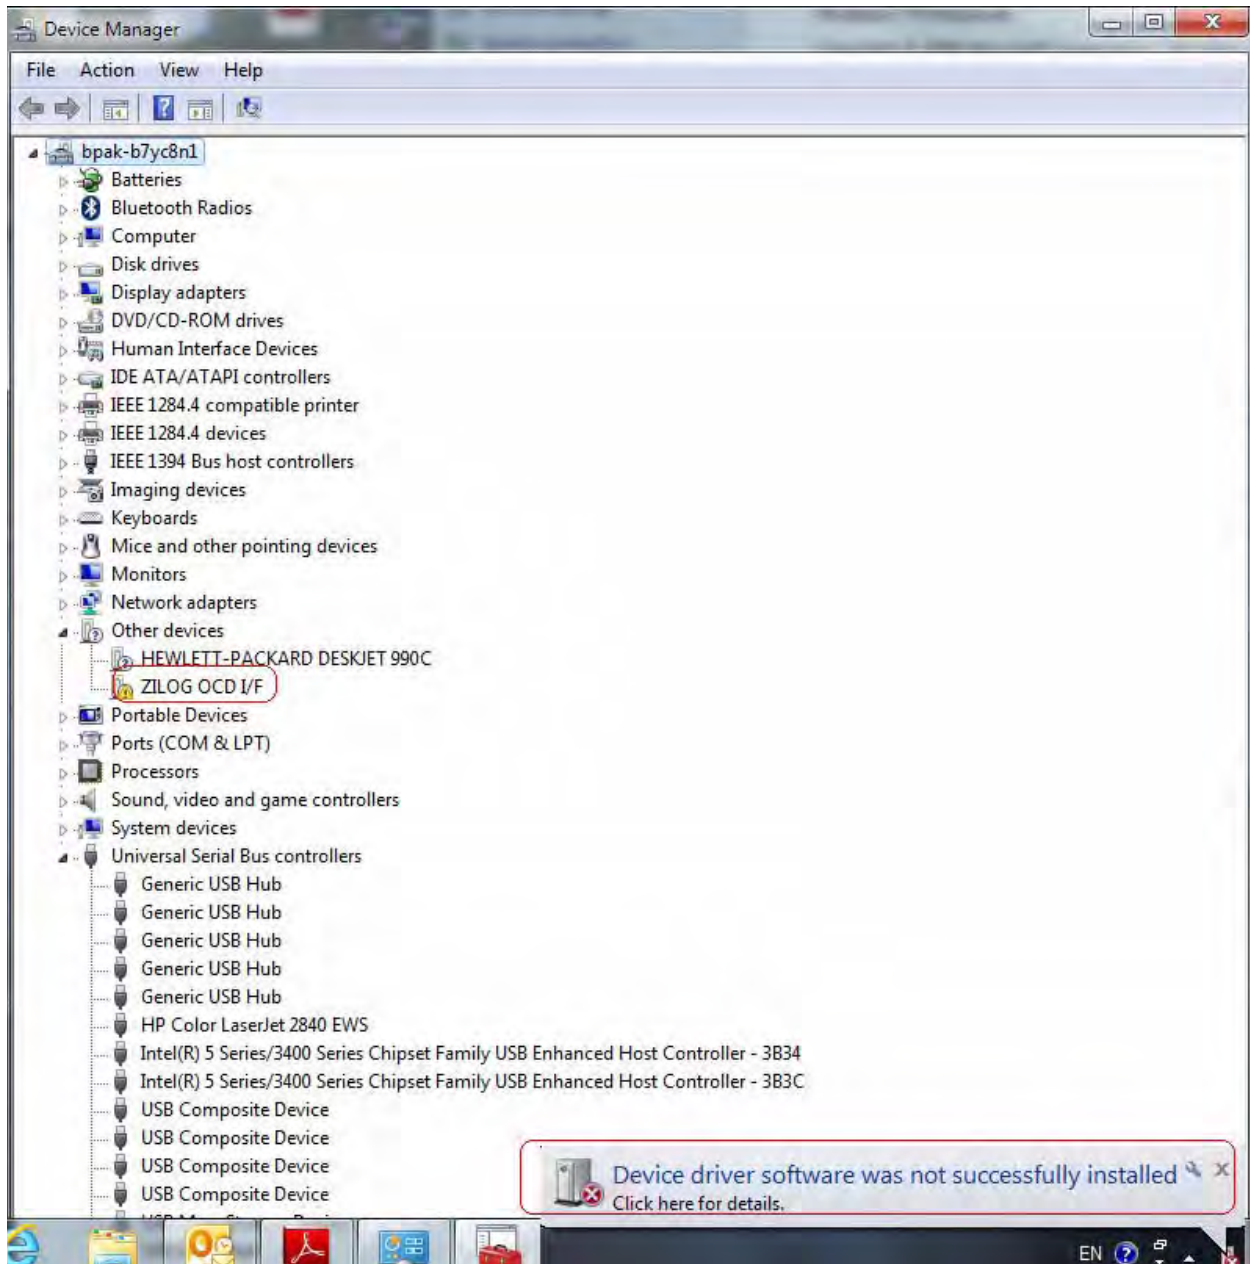
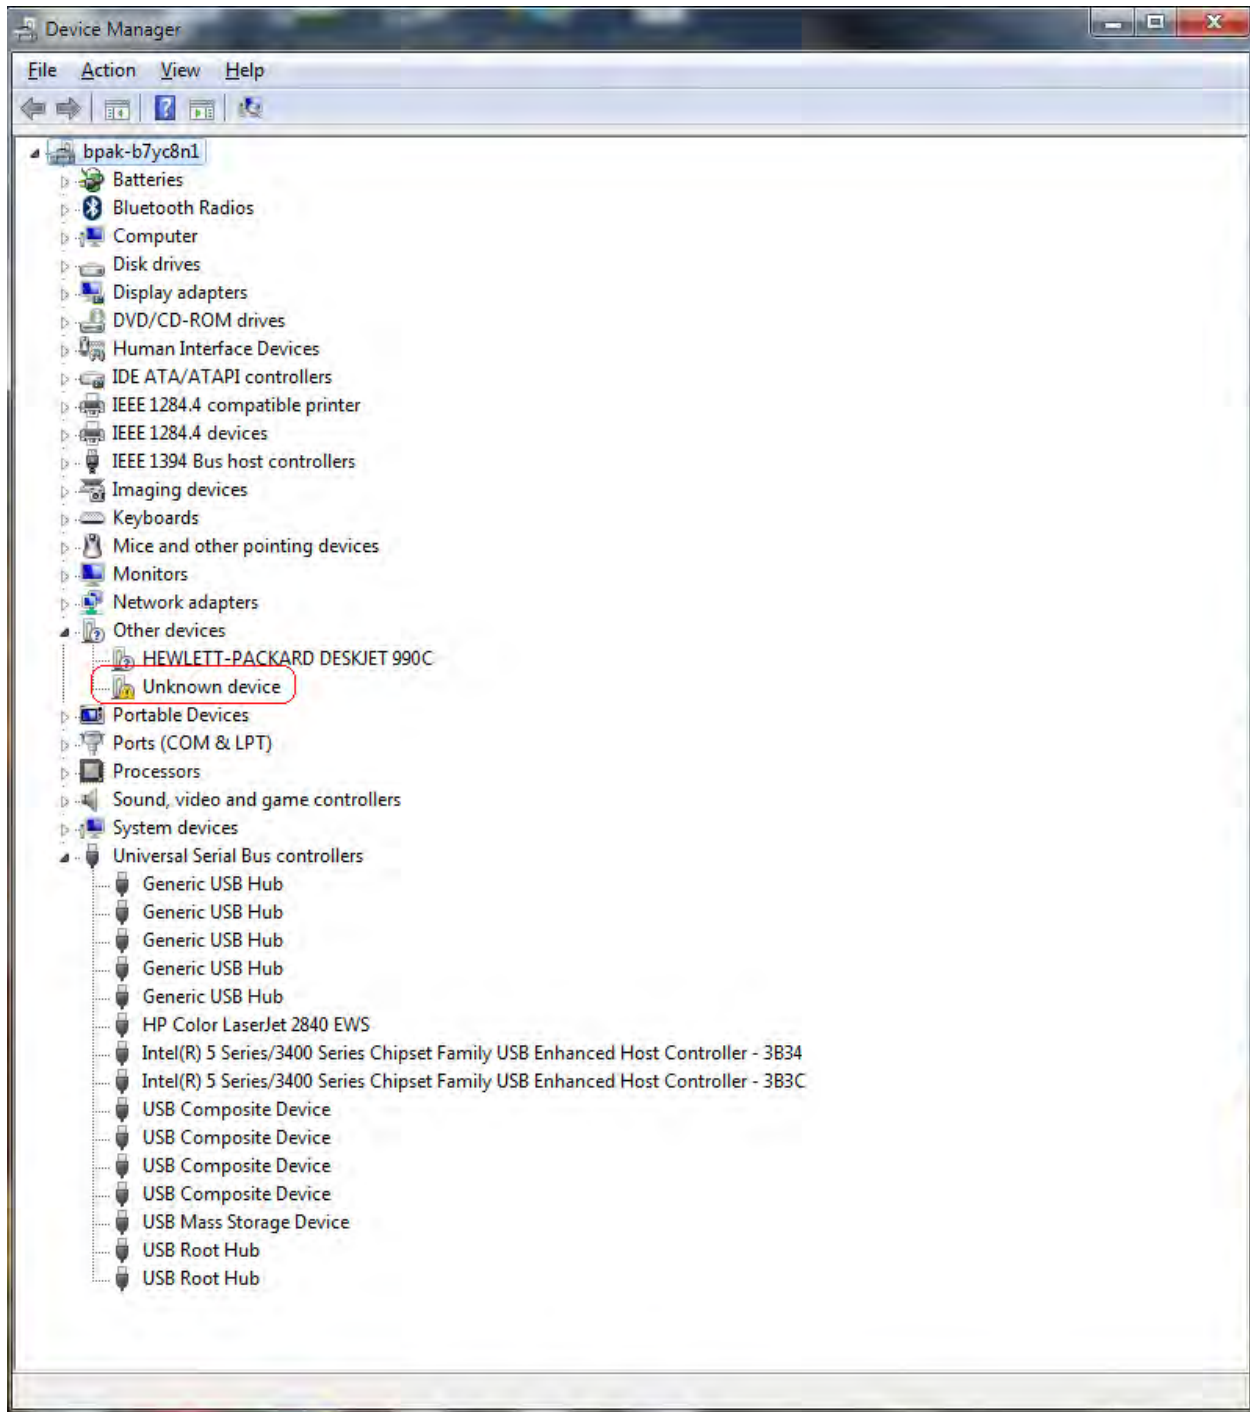

Figure 6. Unsuccessful Installation, Scenario 1
Figure 7. Unsuccessful Installation, Scenario 2
**IMPORTANT NOTE:** If you should encounter the scenarios presented in Figures 6 or 7, right-click your mouse on **ZILOG OCD I/F** (highlighted in Figure 6) or **Unknown device** (highlighted in Figure 7) and select **Update Driver Software...**